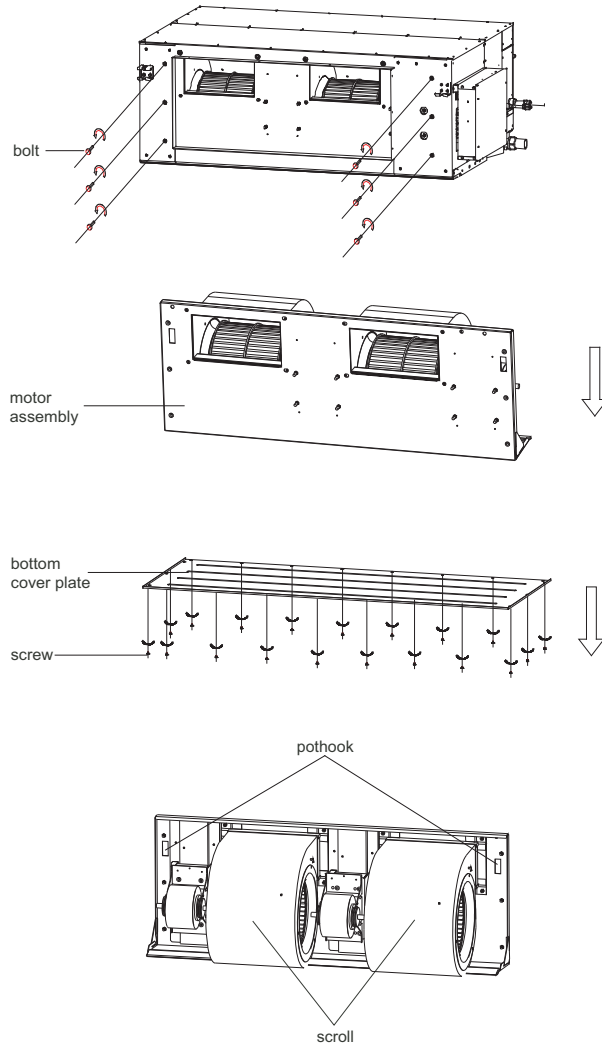

Fig. 34 —Fan disassembly (072-096)
1. Remove the bottom cover plate (see Fig. 34).